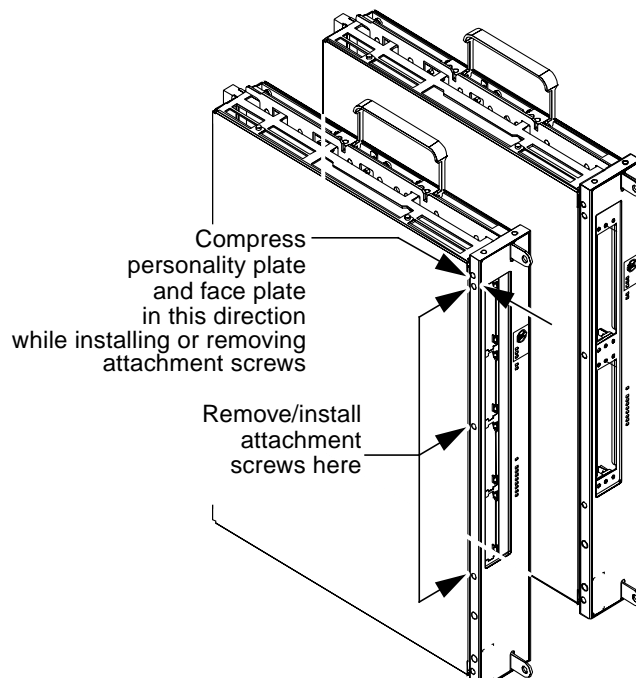

FIGURE 4 Personality Plate Removal
1. **Compress the personality plate to the backside of the system board face plate to relieve the stress on the screws, remove the three screws securing the personality plate (FIGURE 4 on page 6).**